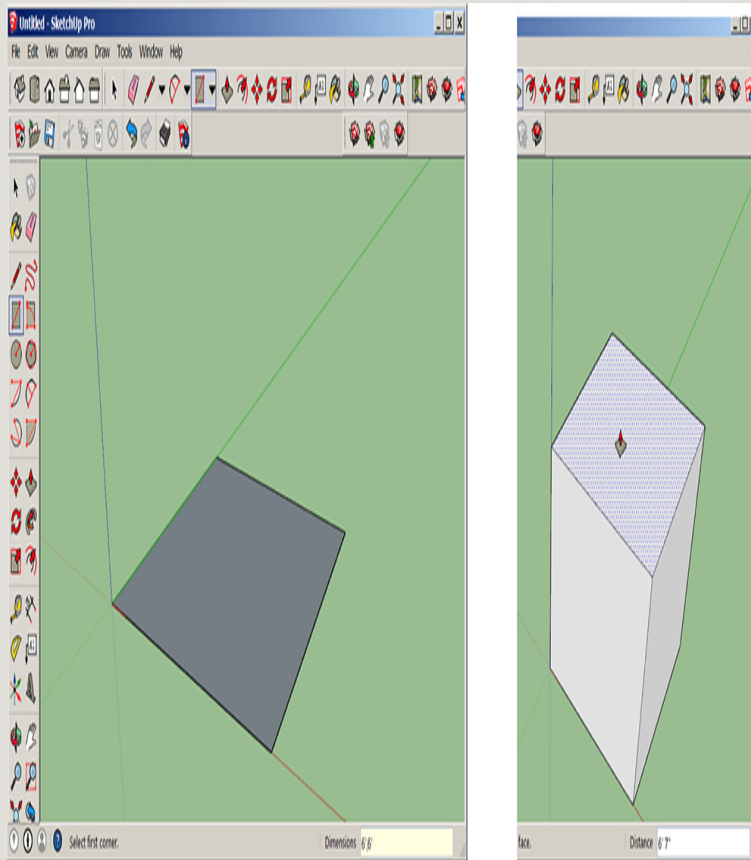

Figure 3-2 Make a 6' × 6' × 6'7" box.
1. Make a 6' \times 6' \times 6'7" box (Figure 3-2). Activate the Rectangle tool, and click it onto the workspace. Before clicking a second time, type **6',6'** (no space between the